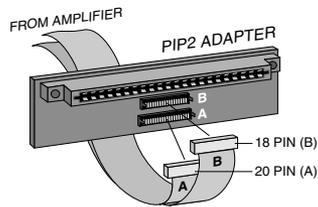

Fig. 2.2 *PIP2* Input Adapter Connection
2. Remove the existing *P.I.P.* module or panel (two screws). For *PIP2* amplifiers, this may involve disconnecting the *P.I.P.* from a *PIP2* input adaptor (see Figures 2.2 and 2.3). If a *PIP2* input adaptor is already present, do not remove the ribbon cables from the adaptor. Otherwise you will have to reconnect them in the next step.
PIP2 Amplifiers: (Requires a *PIP2* input adaptor, Crown part number Q43528-1.) Connect the *PIP2* input adaptor to the two input cables of the amplifier (see Figure 2.2). Notice that the *PIP2* input adaptor should be positioned with the *P.I.P.* edge connector on top and facing away from the amplifier. The 20-pin cable (A) is connected first, then the 18-pin cable (B) is connected. Both ribbon cables should extend below the *PIP2* input adaptor.